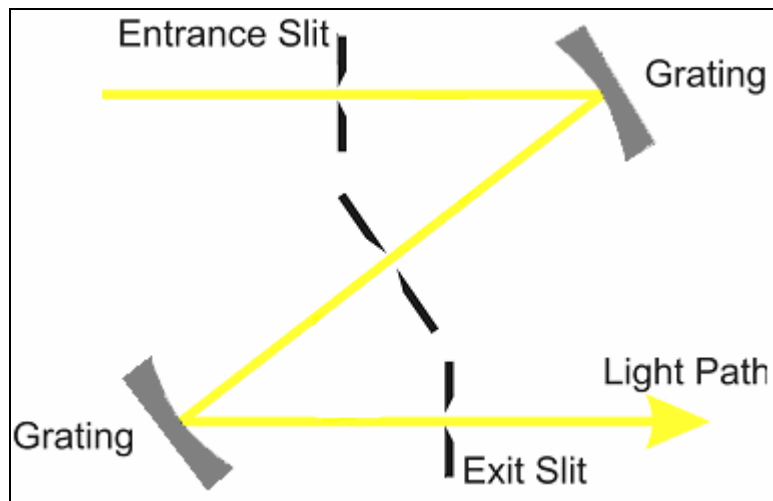

Figure 5-3: Detailed view of excitation and emission double monochromator unit
The optical system of the fluorescence top and bottom system of the infinite® M200 is sketched below. The system consists of the light source system (1) including the excitation **double** monochromator (2), the fluorescence top optics (3), the emission **double** monochromator (4) and the fluorescence detection (5). The solid arrows indicate the light path of the excitation light; the dashed arrows indicate the emission light path. To simplify the system, the 'Flash Monitor' (see 5.1.1; Flash Monitor) is not shown. Each monochromator unit, (2) and (4), is built of two gratings and a schematic view is displayed in more detail in Figure 5-3.